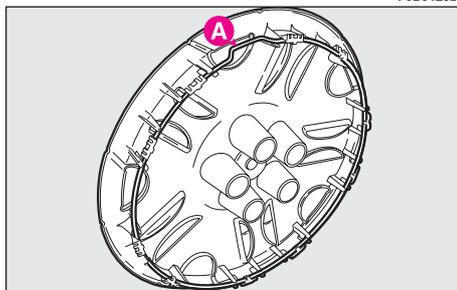

fig. 11
23) Refit the wheel cap (for versions/markets, where provided) and make groove **A**-fig. 11 match with the wheel inflation valve.